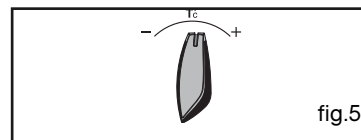

fig.5
Set the temperature using the + or - selector (fig.5).
- 0:00 is displayed (fig.5),